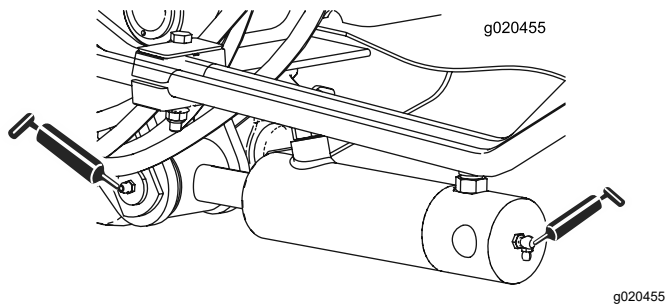

Figure 52
- 2 (each side) lift-arm-cylinder bushings (Figure 52)